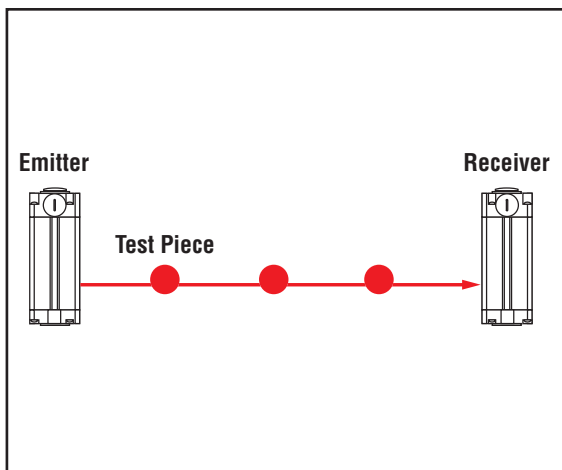

Figure 1. EZ-SCREEN Point trip test
**5b) With the guarded machine at rest, pass the test piece downward through each beam at three points:** near the receiver, near the emitter, and midway between them (see Figure 1).